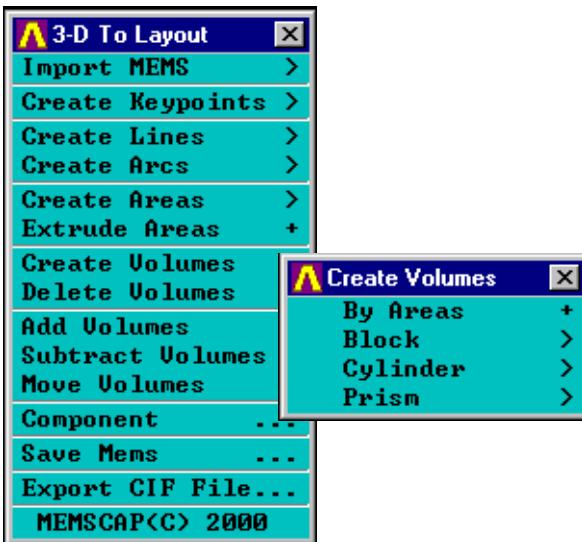

Figure 7: **Create Volumes** button
- By clicking the **Create Volumes** button, you can create blocks, cylinders, prisms and volumes by areas (Figure 7).